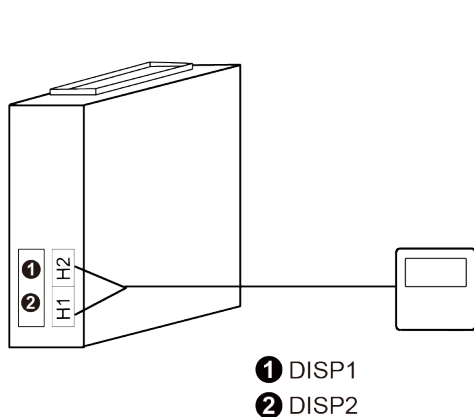

Fig.5.4.1
- 1) Fig.5.4.1 shows the installation of wired controll